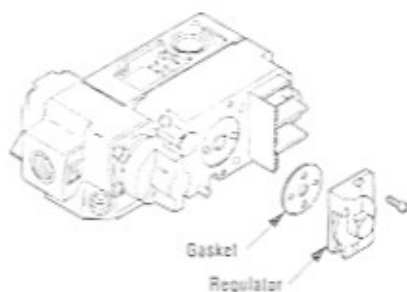

Figure 41
**Step 2.** Carefully remove the three (3) twigs on top. Then remove the two (2) main logs. Exercise care as not to break the logs.
**Step 3.** Remove the two (2) screws located at the rear of the burner tray. Remove the burner tray with the burner. Use care to prevent damage to the air shutter adjustment rod. Lift the rear of the burner tray up slightly and to the right to disengage the burner tube from the manifold and orifice.
**Step 4. Millivolt Appliances** — Remove and replace the regulator assembly located on the front of the gas valve (Figure 41). Ensure that the gasket is seated properly and is not kinked.